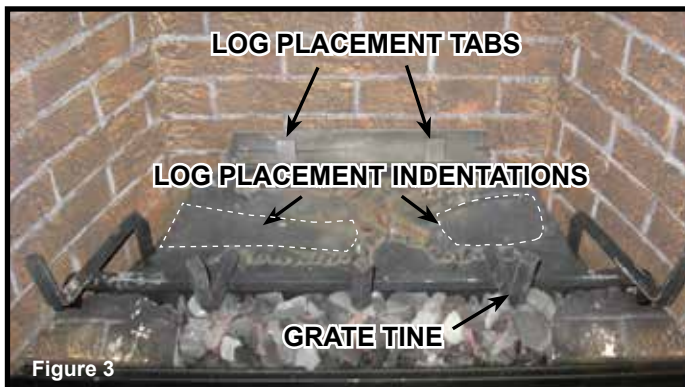

Figure 3
**Log #1 (2166-721):** Locate log placement tabs on the pilot cover. Bend tabs upward as shown in Figure 3. Tabs should be in a vertical orientation. A pliers may need to be used. Locate the log placements slots on the bottom of Log #1. See Figure 4. Mate the slots located on the bottom of Log #1 with the placement log tabs on the pilot cover. Log #1 is properly installed when it sits squarely and completely on pilot cover with tabs engaged. See Figure 5.